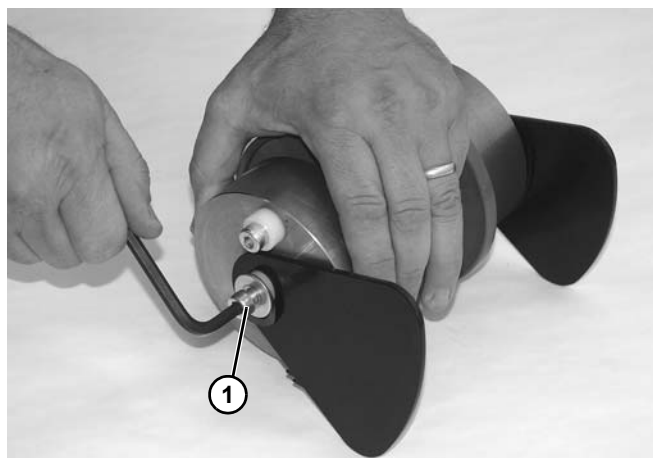

Figure 151
6. Remove socket head screw (**Figure 151, item 1**) from end of idler pulley assembly.